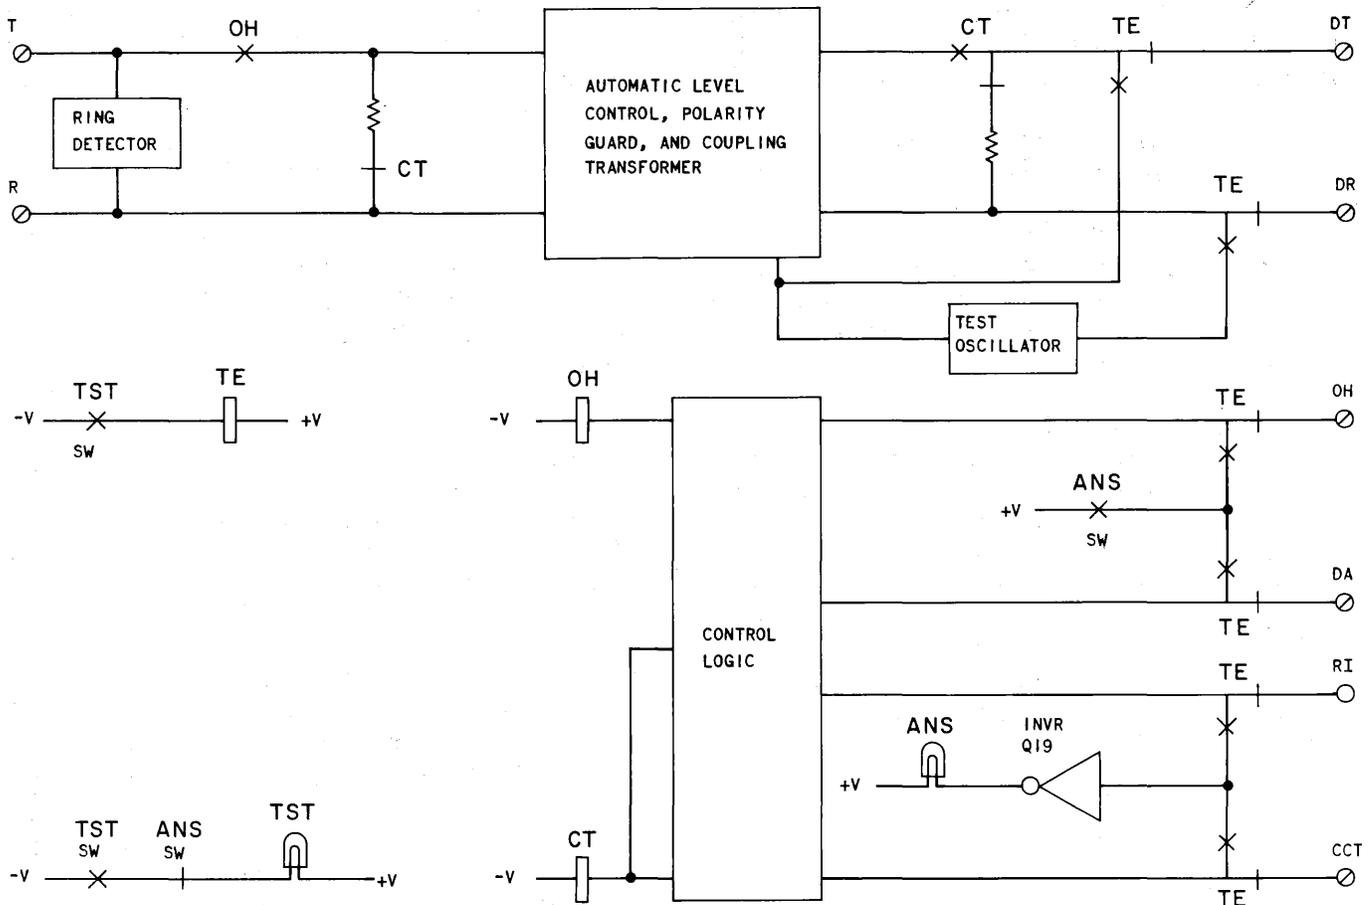

Fig. 6—Functional Schematic of 1001A Data Coupler—Test Mode
2.25 A test circuit provides the means for applying a test tone to the line through the ALC circuit (Fig. 6). This permits testing the level control, the local loop, and certain logic control functions of the coupler. The circuit is designed to be remotely tested from the local test desk (LTD), although a data test center (DTC) or other designated test location may perform the test.